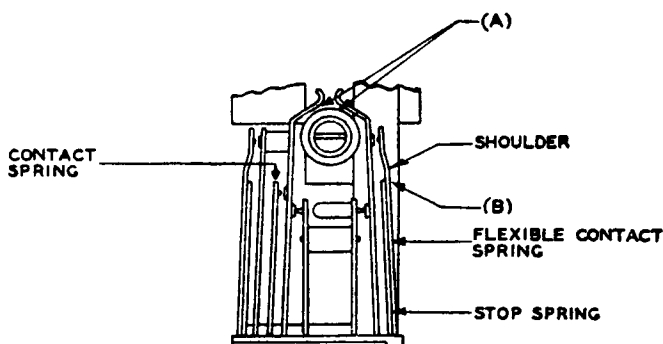

Fig. 1
**1.07 *Flexible Spring Position***—Fig. 1(B):
(a) Fig. 1(A): .005" between plunger springs and rubber plunger.